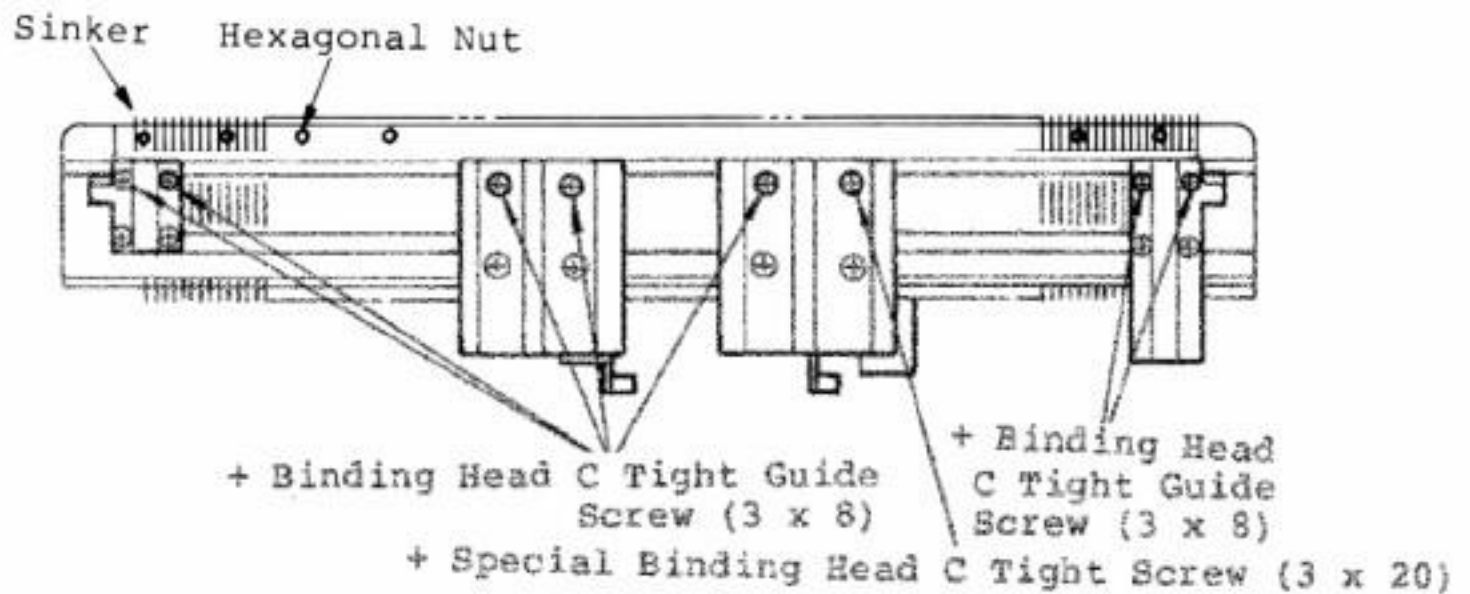

Fig. 88
- (1) Loosen the Hexagonal Nut near the Sinker Post to be pushed inward by a quarter turn.
- (2) Loosen 7 CTT screw (3x8) and STT Screw (3x20) securing the bracer. (fig. 88)
- (3) Push the foot of the Sinker Post with the round part of a wooden hammer.